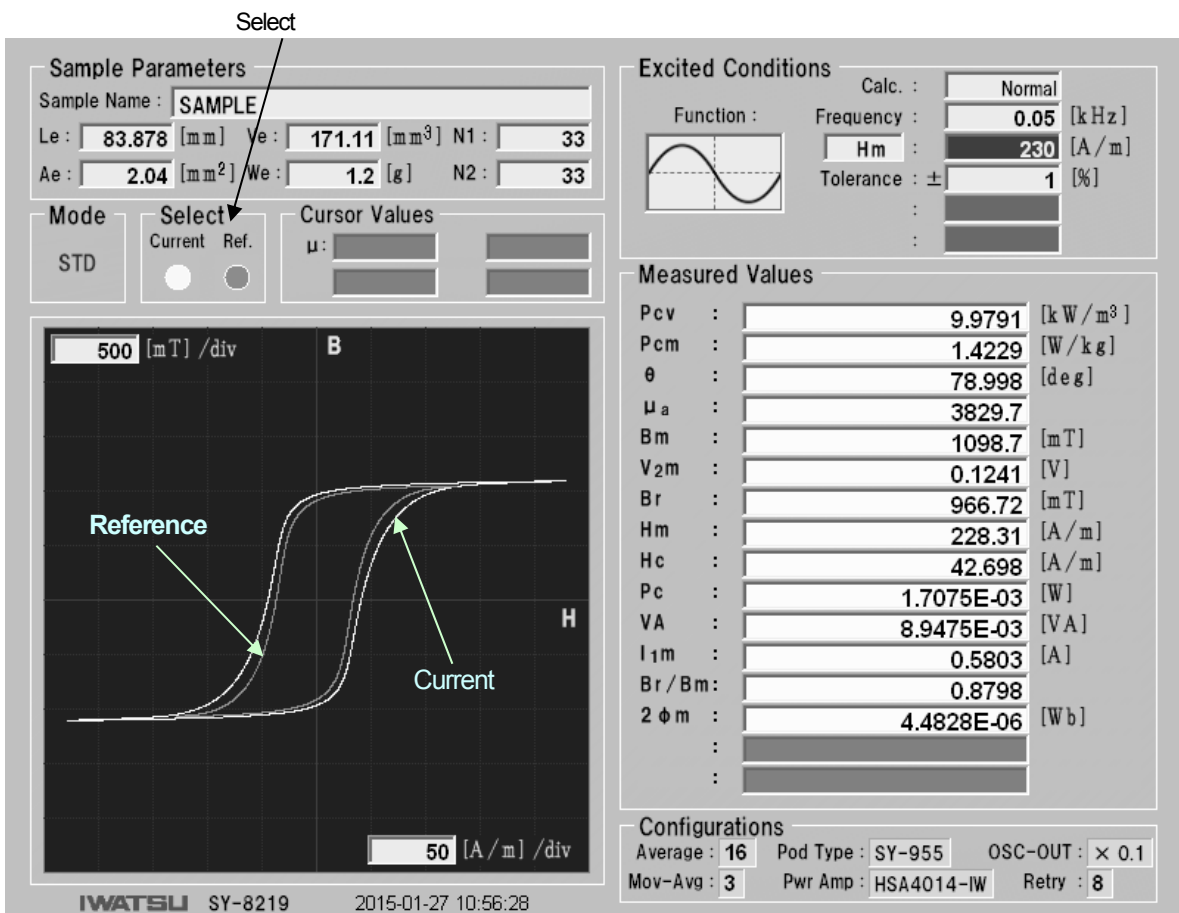
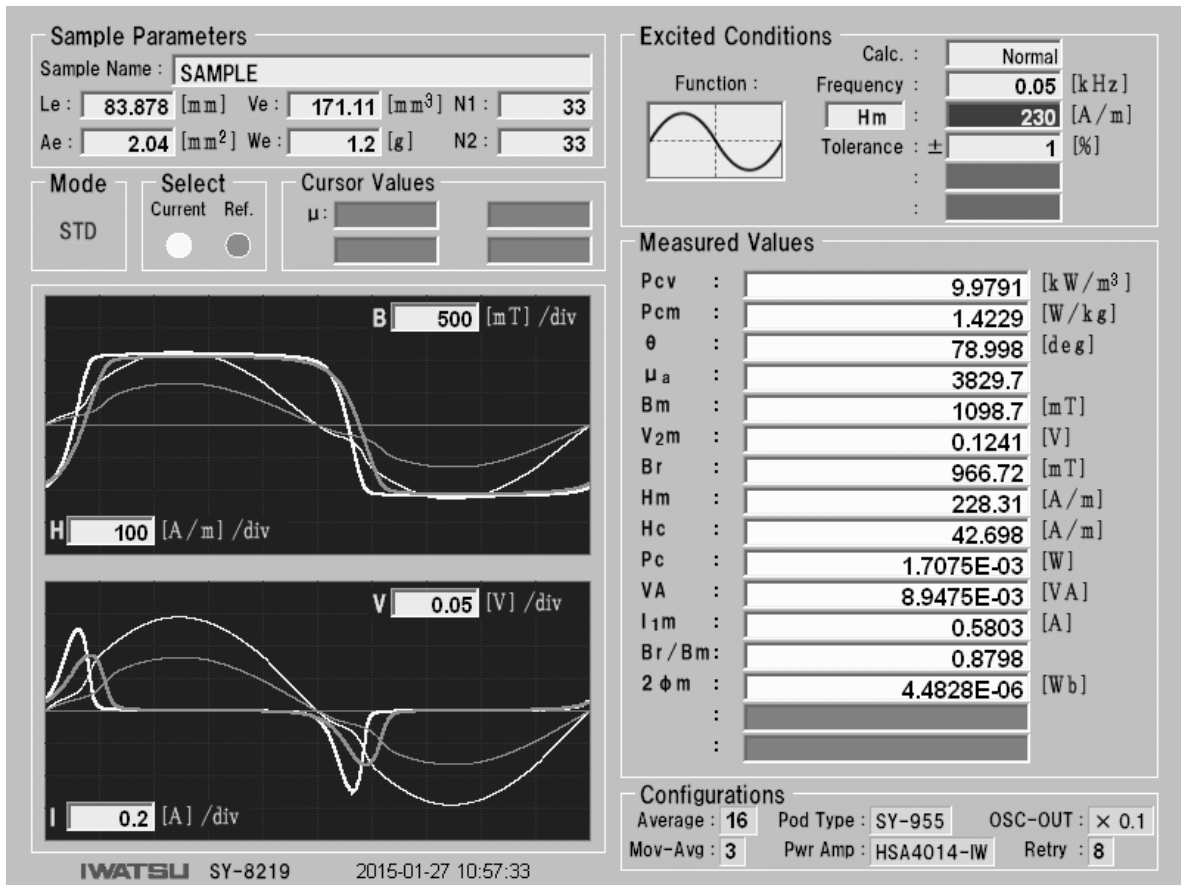

Fig.6-14 Reference function in B-H graph
Fig.6-15 Reference function in time axis graph
① When a measurement result is displayed, press  to make it **Reference**.
② Next, change the measurement condition and make another measurement. The measurement result is **Current**.
③ To display Reference, press . Each time it is pressed, the measurement condition and value change as shown in Table 6-7. Reference waveform is displayed in **light blue** and Current waveform in **yellow**. The status is indicated in **Select** on the measurement screen (see Fig.6-14 and Fig.6-15).